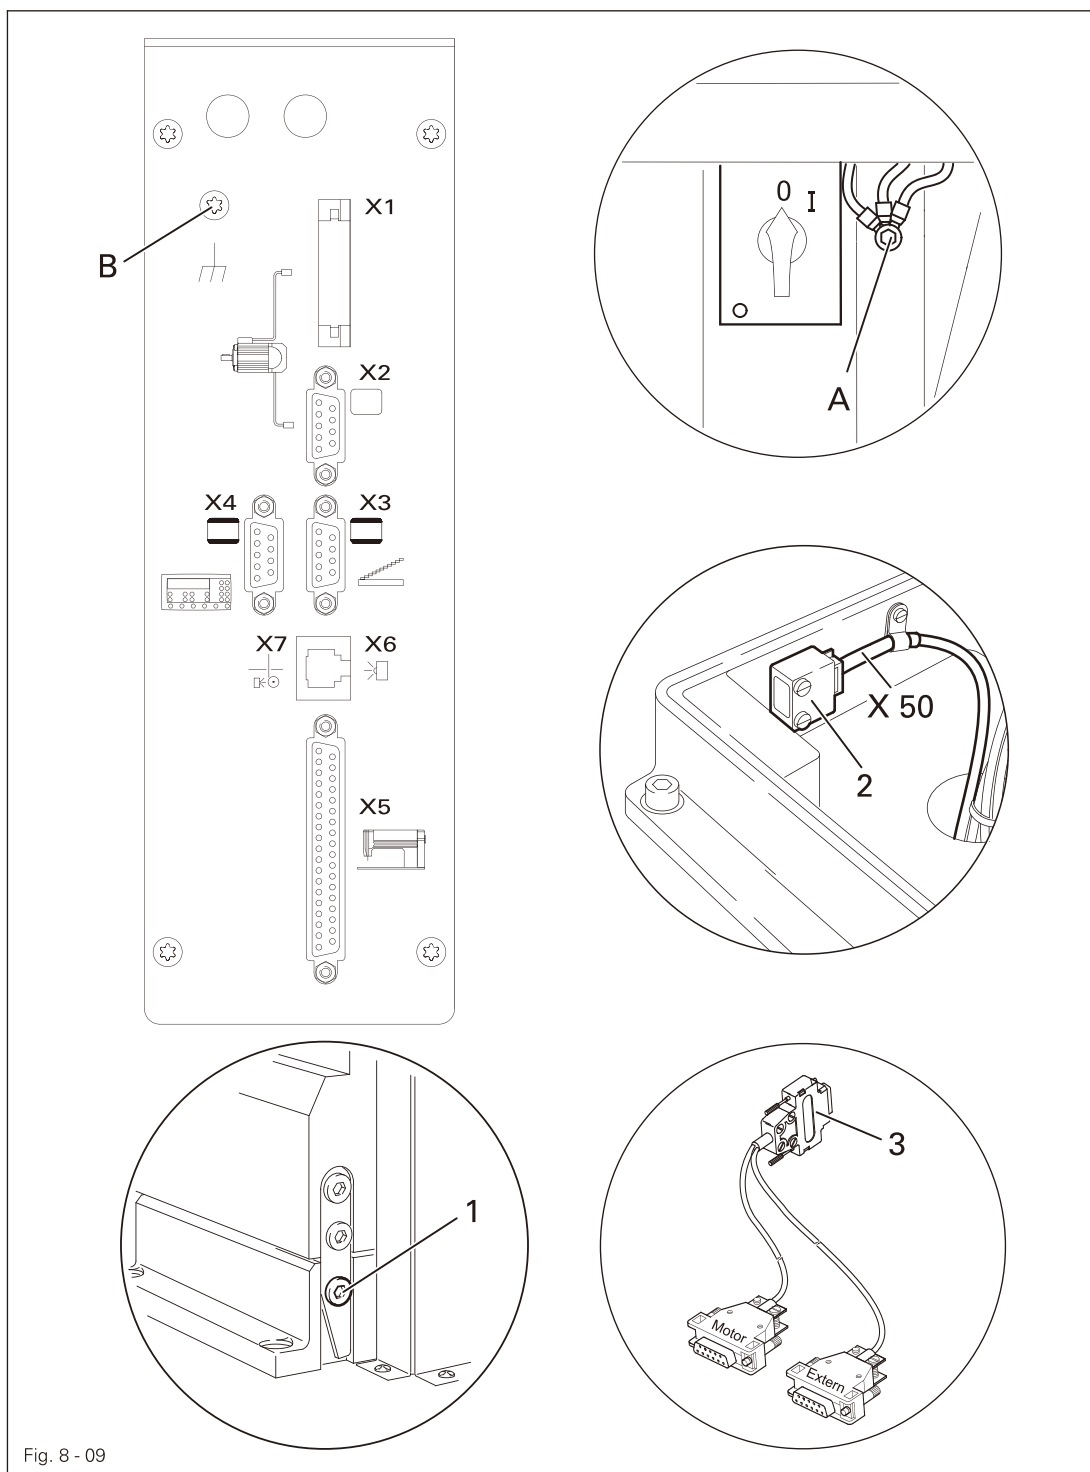

Fig. 8 - 09
- Fit the reel stand as shown in Fig. 8 - 07.